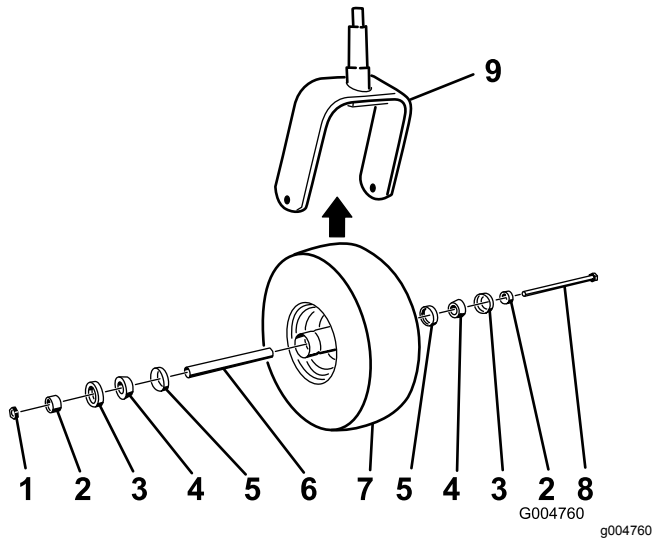

Figure 77
2. Remove the locknut from the bolt (Figure 77).
5. Assemble the caster wheel by pushing the cone bearings and seals, packed with grease, into the wheel hub, positioned as shown in Figure 77.